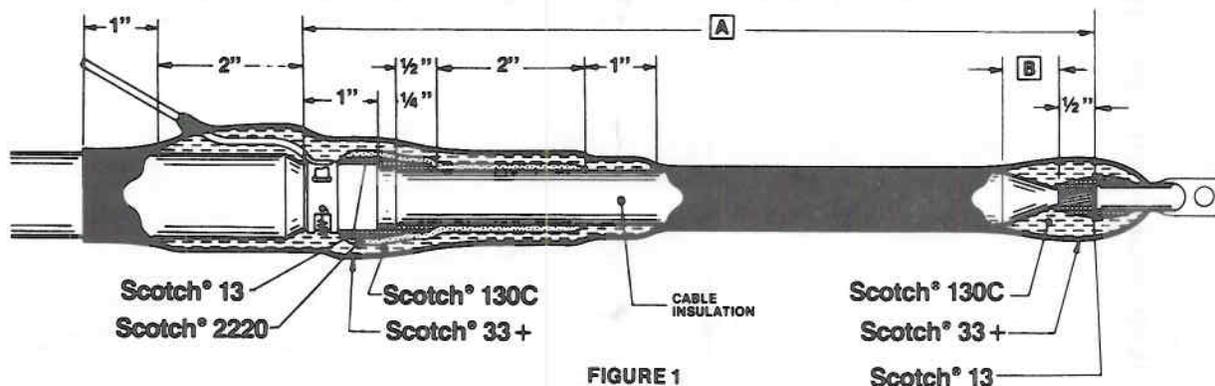

FIGURE 1
2. Wrap 130C Tape over entire termination overlapping 130C Tape in "pencil" area. Build up 130C Tape to a thickness of 3/16". See Figure 1.
1. Wrap one half-lapped layer of 33+ Tape over entire termination covering lug or conductor seal and extending 1" onto cable jacket. See Figure 1.
3. Overwrap ENTIRE termination with at least one half-lapped layer of 70 Tape. See Figure 1.